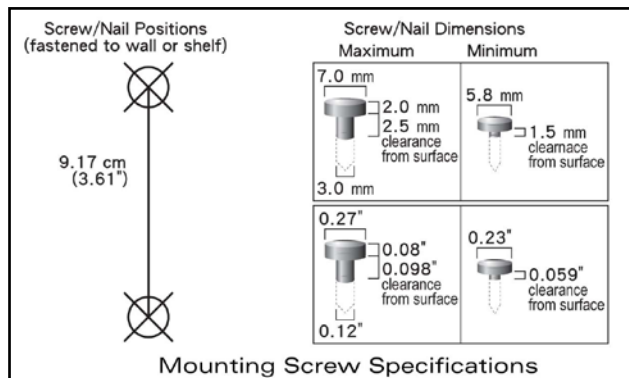

Figure 1: PoE Midspan mounting instructions
- Install two screws in the wall or shelf as shown in Figure 1.